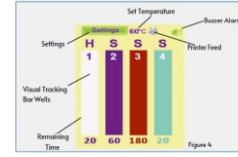

Figure 1
4. When the AXRM100 Mini Auto Readout Rapid Incubator started the screen will be like (Figure 1).Continue by selecting the relevant cycle time, temperature and indicator type.